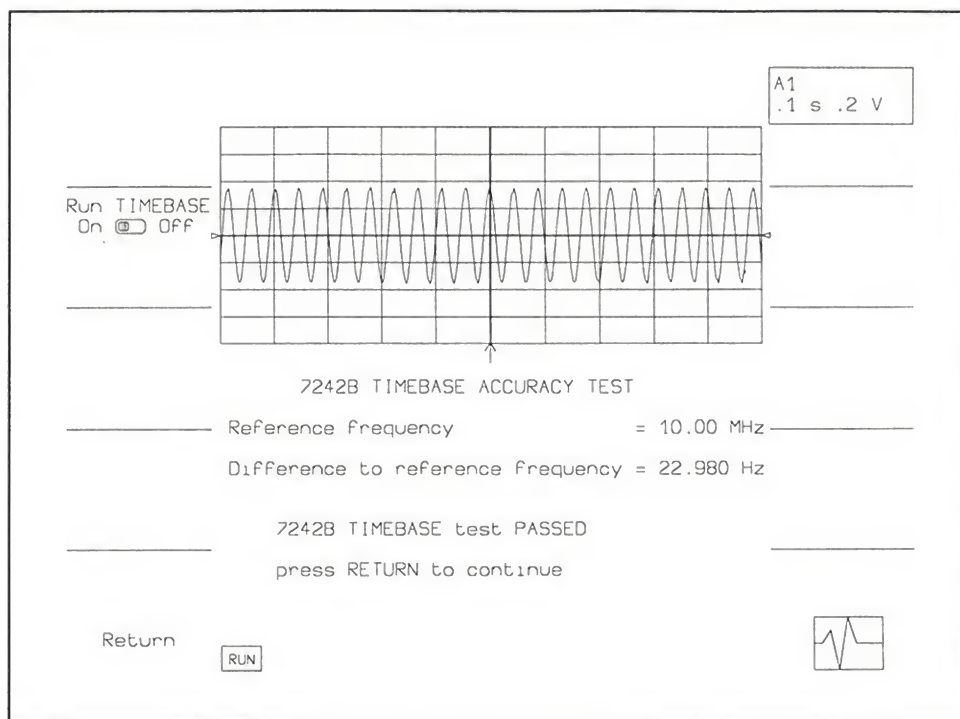

Fig 2.9
- In order to verify the time base, use a sine wave generator with a frequency accuracy of better than 1 PPM. If the selected LOG TYPE is either Printer or Floppy then the timebase test data will be collected automatically. If NO LOG was selected, when the test is complete the results will be displayed on the screen as in Fig 2.9. Record these results in Table 2.6. Follow the displayed instructions.